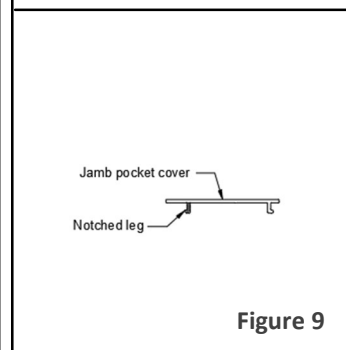

Figure 9
3.4c The snap leg on interior pocket cover has been pre-notched from factory (figure 9). Should screws be installed outside of the location noted, pocket cover will not snap.